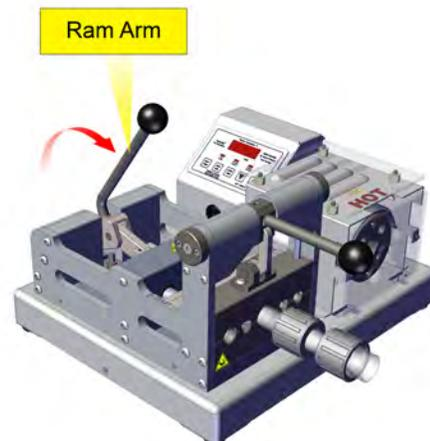

Fig. 9. Ram Arm locked into position
- Move the Ram Arm forward in a smooth and even motion to a locking position to activate the “CURE TIME” cycle. See Fig. 9.